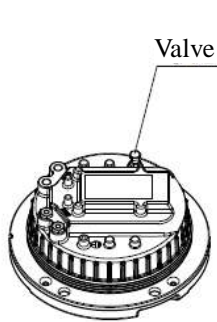

Figure 5-21
- Unscrew the valve cap at the lighting fixture bottom (see Figure 5-21 and 5-22).